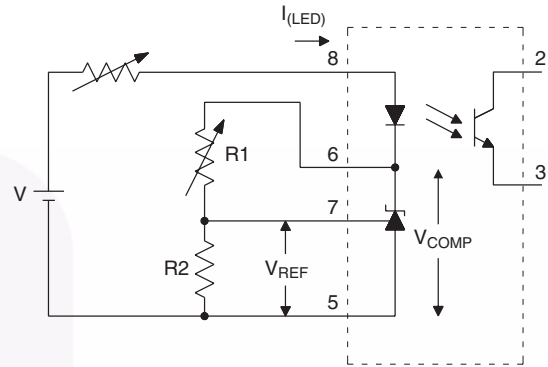

Figure 2. $\Delta V_{REF}/\Delta V_{COMP}$ Test Circuit
- The dynamic impedance is defined as |Z_{OUT}| = ΔV_{COMP}/ΔI_{LED}. When the device is operating with two external resistors (see Figure 2), the total dynamic impedance of the circuit is given by: